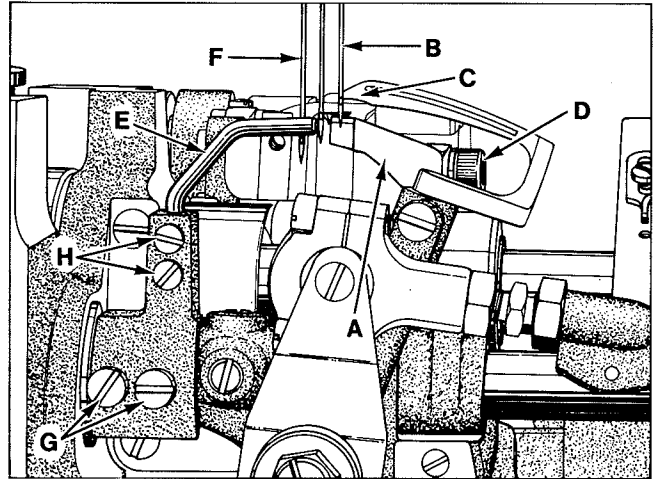

Fig. 12
At extreme forward end of travel, rear needle guard (A, Fig. 12) must be set horizontally not to contact rear of right needle (B) with a maximum clearance of .005 inch (.13mm). Guard should be set as low as possible, yet have its vertical face approach approximately 3/64 inch (1.2mm) of needle point until point of looper (C), moving to the left, is even with the needle. Adjustment can be made by loosening screw (D), reposition guard as required and retighten screw.
Front needle guard (E, Fig. 12) should be set as low as possible, yet push the left needle (F) towards the path of looper (C) until point of looper passes to the rear and left side of needle. Looper may brush but not pick at the left needle. Front needle guard should not make contact with rear needle guard or right needle at any time. Forward or rearward adjustments can be made by loosening screws (G), reposition guard as required and retighten screws. Height or rotation of guard can be acquired by loosening screws (H), reposition as required and retighten screws.